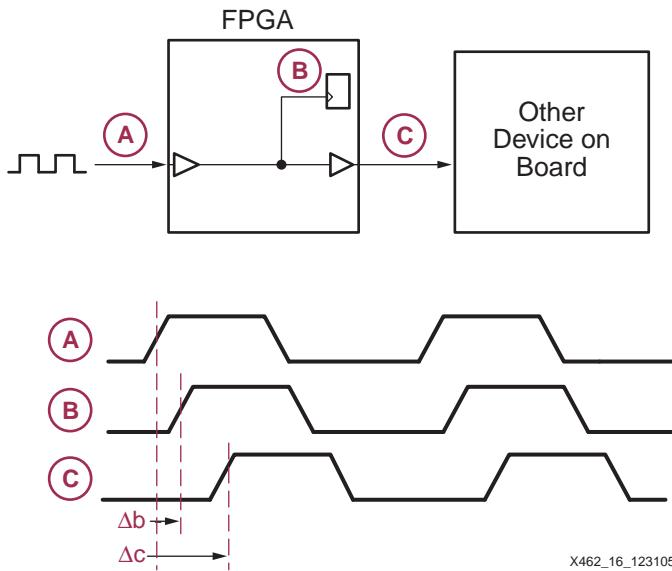
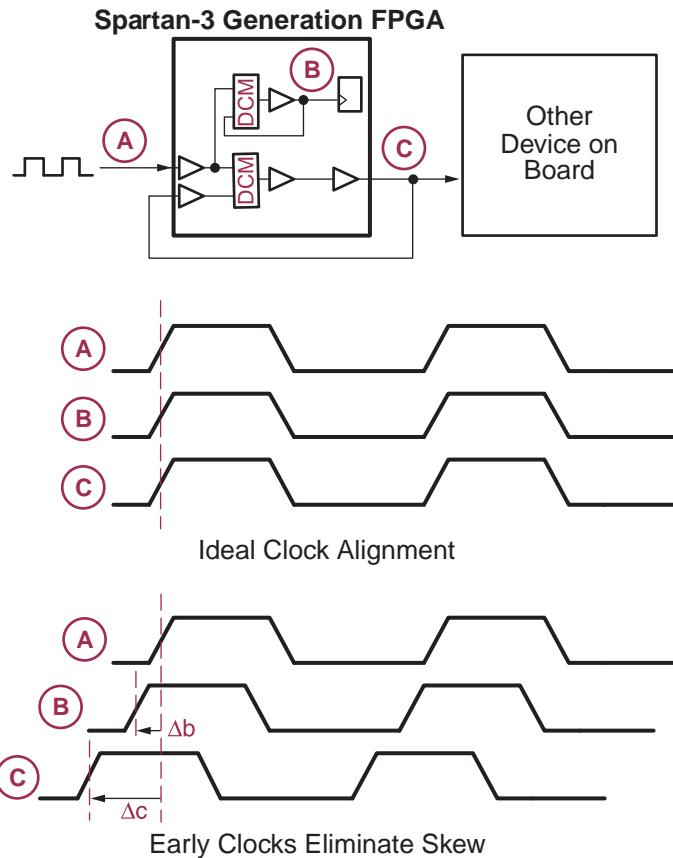

Figure 3-16: Clock Skew Inherently Exists in Every Synchronous System
Figure 3-17: **Eliminating Clock Skew in a Spartan-3 Generation FPGA Design**
Figure 3-16 illustrates clock skew in an example system. A clock source drives the clock input to an FPGA. The clock enters through an input pin on the FPGA, is distributed within the FPGA using the internal low-skew global clock network, and arrives at a flip-flop within the FPGA. Each element in the clock path delays the arrival of the clock edge at the flip-flop. Consequently, the clock input at the flip-flop—Point (B)—is delayed, or skewed compared to the original clock source at Point (A). In this example, this clock skew or difference in arrival time for this path is called Δb .
Figure 3-17 shows the same example design as Figure 3-16, except this time implemented in a Spartan-3 generation FPGA. Two DCMs eliminate the clock skew: one DCM eliminates the skew for clocked items within the FPGA, the other DCM eliminates the skew when clocking the other device on the board. The result is practically ideal alignment between the clock at Points (A), (B), and (C)!
How is clock skew elimination accomplished? Remember, clock skew is caused by the delay in the clock path. In Figure 3-17, the clock at Point (B) was skewed by Δb and the clock at Point (C) was skewed by Δc . What if there was a way to provide Point (B) with an early version of the clock, advanced by Δb and a way to provide Point (C) with an early version of the clock, advanced by Δc ? The result would be that all clocks would arrive at their destinations with perfect clock edge alignment. Such perfect alignment reduces setup times, shortens clock-to-output delays, and increases overall system performance.
Instead of attempting to determine the Δb and Δc delays in advance, the Spartan-3 FPGA DCM employs a DLL that constantly monitors the delay via a feedback loop, as shown in Figure 3-17. In this particular example, two DCMs are required—one to compensate for the clock skew to internal signals and another to compensate for the skew to external devices, each with their own clock feedback loop. The DLL constantly adapts to subtle changes caused by temperature and voltage.